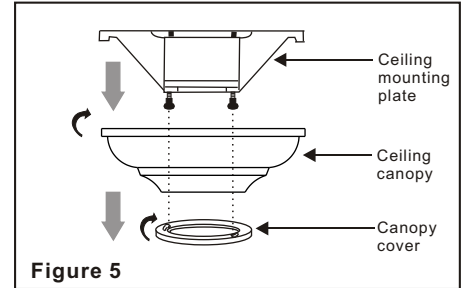

Figure 5
**Step 1.** Remove the decorative canopy bottom cover from the canopy by turning the cover counter clockwise.(Fig. 5)
**Step 2.** Remove the hanger bracket from the canopy by loosening the two screws on the bottom of the hanging bracket a half turn from the screw head and turning the canopy counter clockwise.(Fig. 5)